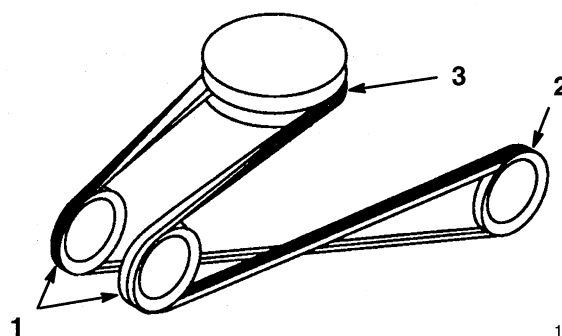

Figure 15
15. Route belt around snowthrower pulley, idler pulleys and lower groove of electric clutch (Fig. 15).